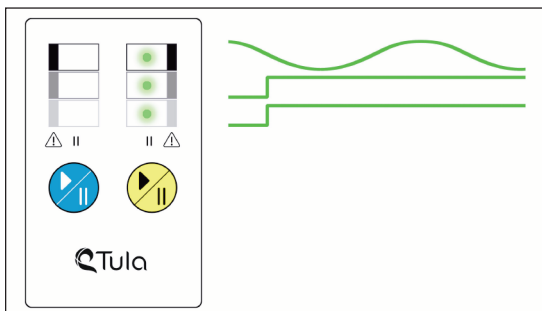

Figure 22. Yellow Channel Delivering Current on the 3rd Segment in Reduce Mode
- a. **Reduce Mode:** By pressing the button twice in rapid succession (ie, double-click), the user can put the selected channel into Reduce mode. This will cause the selected channel to ramp-down until it reaches a new steady-state that is 25% less than nominal. The Progress Light will fade on and off at a slower rate, indicating reduced current delivery. **Figure 22** shows the Yellow channel with two segments Complete and the third Progress Light in a slower Run pattern, indicating current flow in the reduced state in the final third of the iontophoresis program. The iontophoresis program can be completed in Reduce mode, but will take longer to deliver the programmed charge.